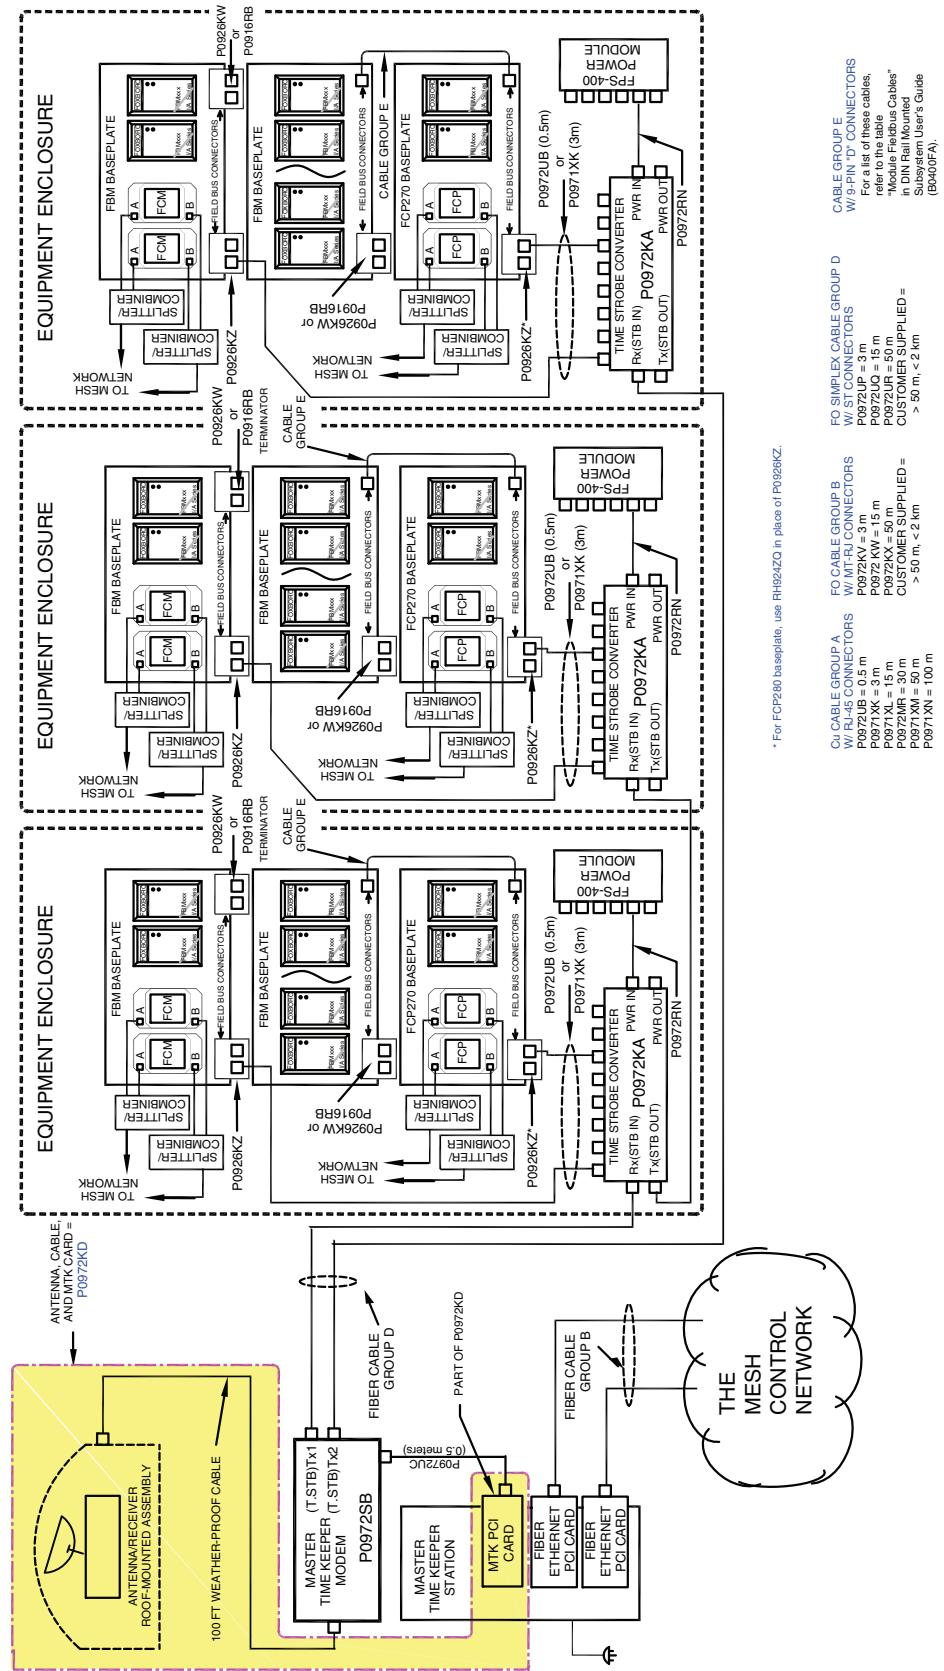

Figure A-4. FCP270 with Wire Antenna Connection, Non-redundant Cabling
- ◆ Extended Time Strobe Network - FCP270 with Wire Antenna Connection, Non-redundant Cabling (Figure A-4)